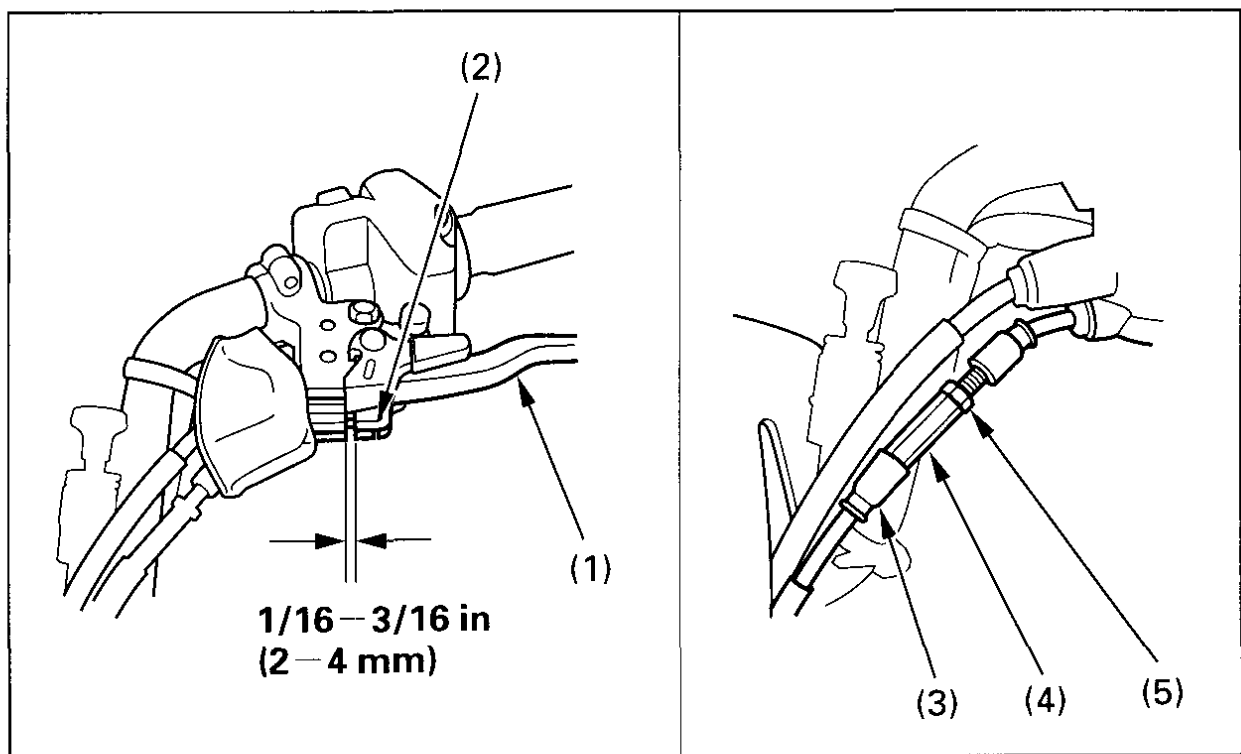

Fig. 4-17 (1) Rear brake lever
Measure the reverse assist lever (2) free play. Free play, measured at the lever (2) end near the cable (Fig. 4-17), should be approximately: